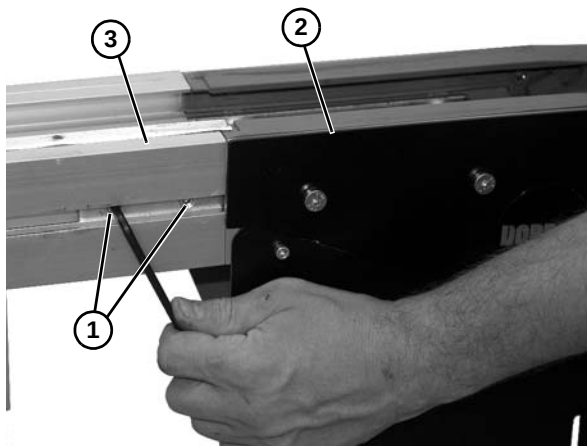

Figure 72
2. Loosen two socket head set screws (**Figure 72, item 1**) on each side of conveyor, and remove the drive tail assembly (**Figure 72, item 2**) from the conveyor frame (**Figure 72, item 3**).